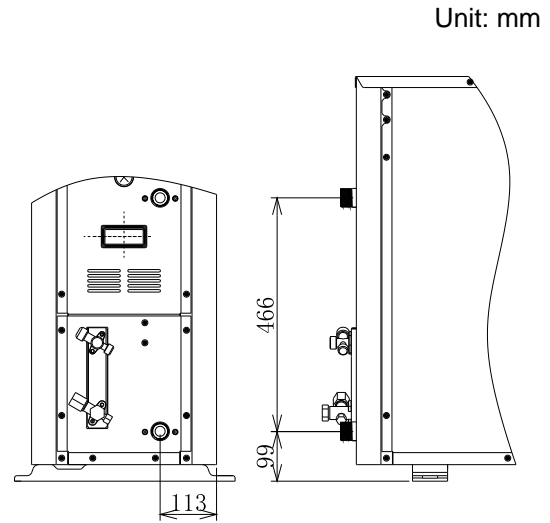

Fig. 4.5 Position of water pipe connection
- (3) Install the outdoor unit in the front-rear and right-left direction horizontally. Check to ensure that the gradient in four directions (front, rear, right, left) is within 10mm.
- (4) Provide a strong and correct foundation so that:
- (5) In case of the drain pipe is necessary for the outdoor unit, use the drain kit (Φ18mm).
- (6) The connection position of the water pipe is shown in Fig. 4.5.